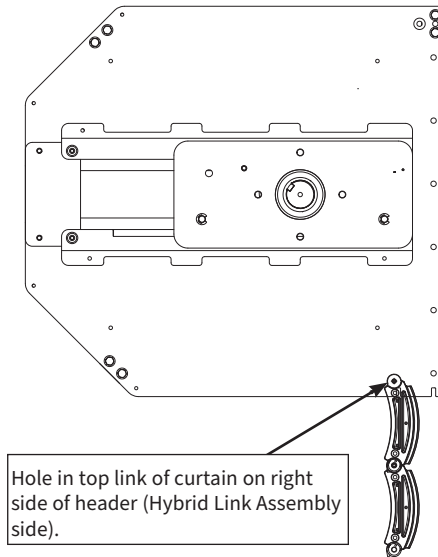

Figure 8: Top Link Of Curtain, Right Side Of Header
- 1 Referring to (Figure 8), note position of the attachment hole on the top link of curtain on the right side of the header. Measure position of this hole from the bottom of the header plate, and from the wall surface.